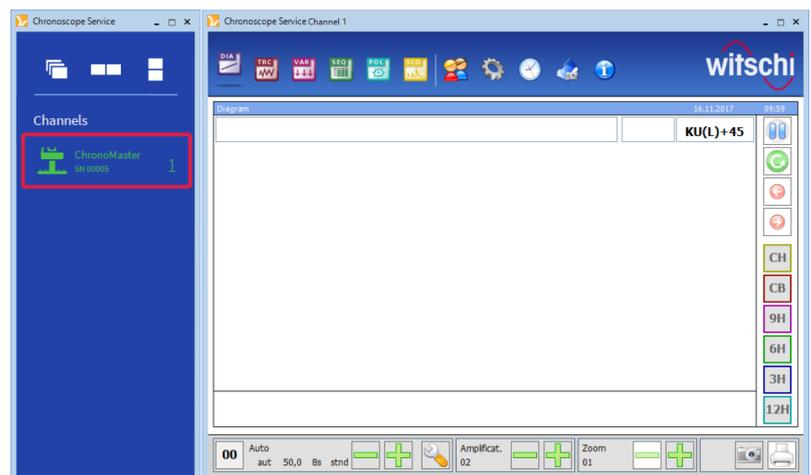

Fig. 7: ChronoMaster identified by the display software
- The ChronoMaster is identified by the display software and executed there (Fig. 7).